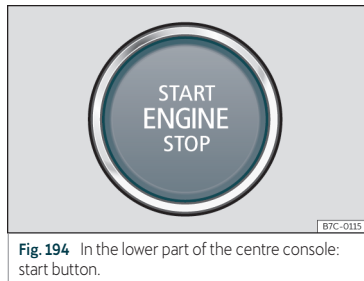

Fig. 195 On the right of the steering column: emergency start.
- Immediately after pushing the starter button, keep the vehicle key next to the right trim of the steering column »» **Fig. 195**, as close as possible to the Kessy logo.